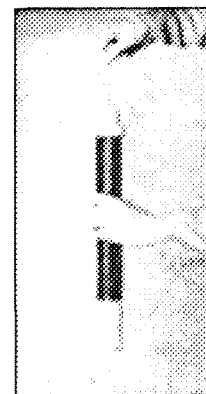

Fig. 6.
4. Stretch and latch spring, *Fig. 6*. Remove refilling tool.